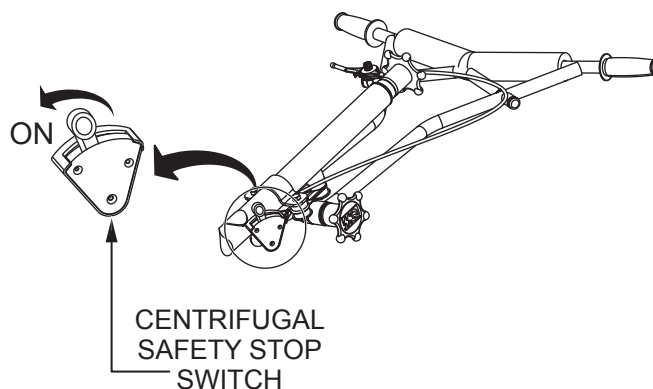

Figure 30. Centrifugal Safety Stop Switch (ON)
4. Place the centrifugal safety stop switch in the **ON** position (Figure 30).